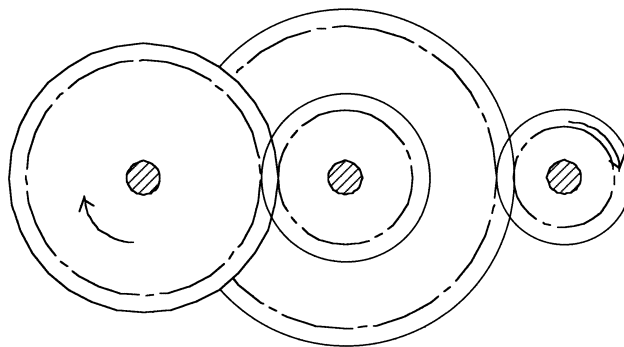

Figure 8
- (c) Gears of the type in **Figure 8** are often used in confined spaces. What is the name given to this type of gear arrangement.